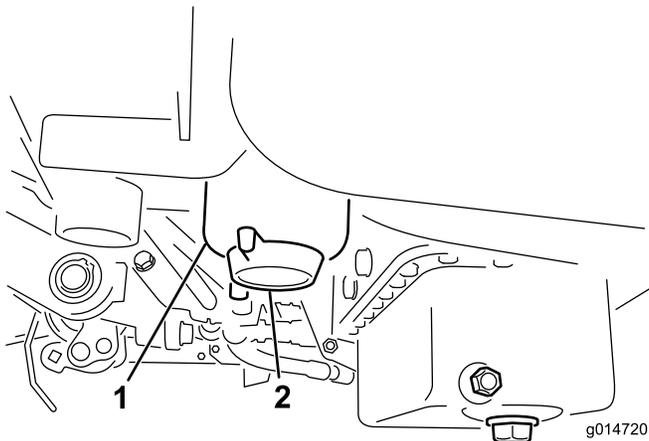

Figure 33
3. Open the drain plug on the fuel filter approximately one turn and drain any accumulated water (Figure 33). Tighten the plug after draining.